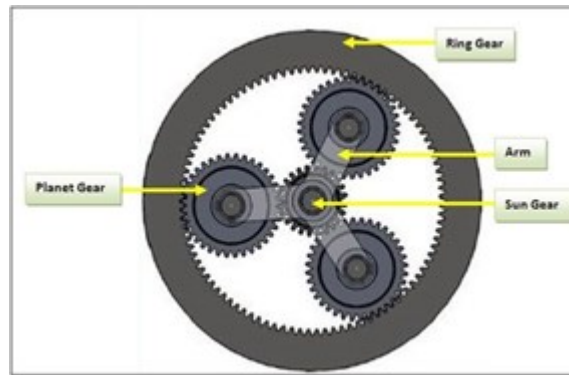

Figure 27
- **Simple.** As figure 27 shows, there is one sun, one set of planets, and one ring gear. This design is commonly used in 8, 9 and 10-speed transmissions.